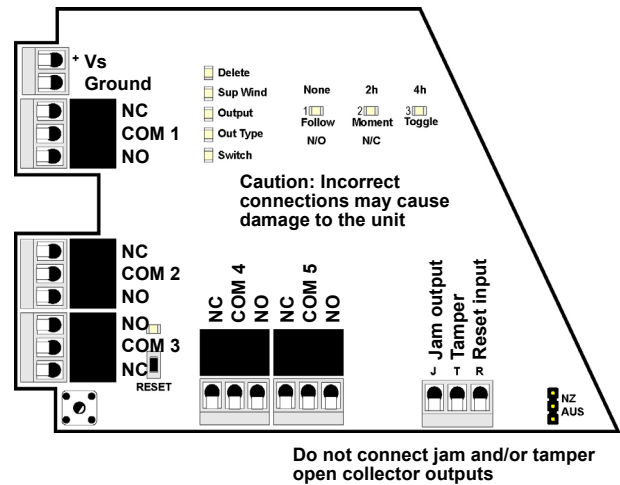

Figure 3 EH4104R terminals
1. Optionally, connect a momentary switch to the reset input and ground (Figure 3, "EH4104R terminals").